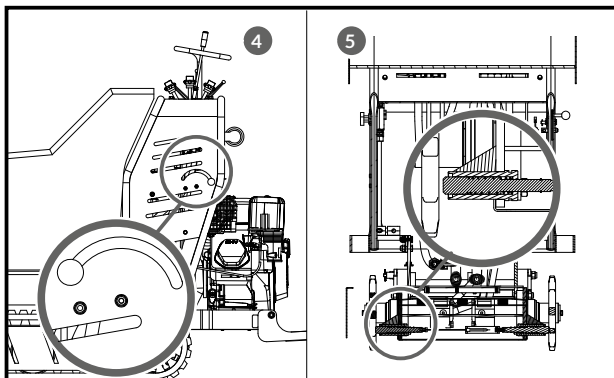

Figure 26
- B. If the parking lever is turned to the position shown in figure 26 (4) and the parking axle is still in the parking state shown in figure 26 (5), repeat the same steps above, but screw the adjusting nuts in opposite direction.